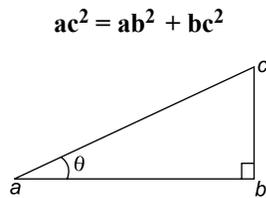

Figure 1.5
i.e. in the triangle of Figure 1.5,
**Problem 7.** In Figure 1.5, if  $ab = 5.1$  m and  $bc = 6.7$  m, determine the length of the hypotenuse,  $ac$ .
In problems 1 to 5, refer to Figure 1.5.